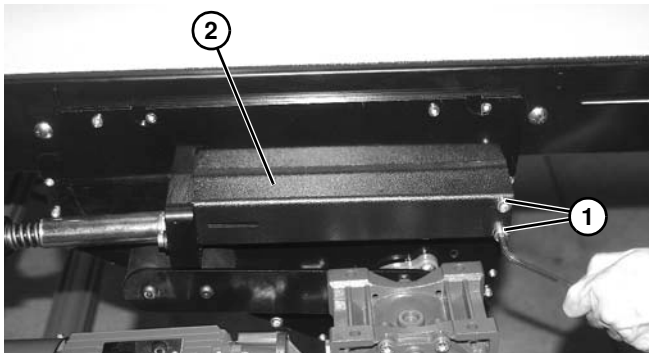

Figure 176
1. Remove two screws (**Figure 176, item 1**) and channel guard (**Figure 176, item 2**) from each side of center drive.
11. Reinstall channel guard (**Figure 176, item 2**). Tighten screws (**Figure 176, item 1**) to 8 Nm (69 in lbs).